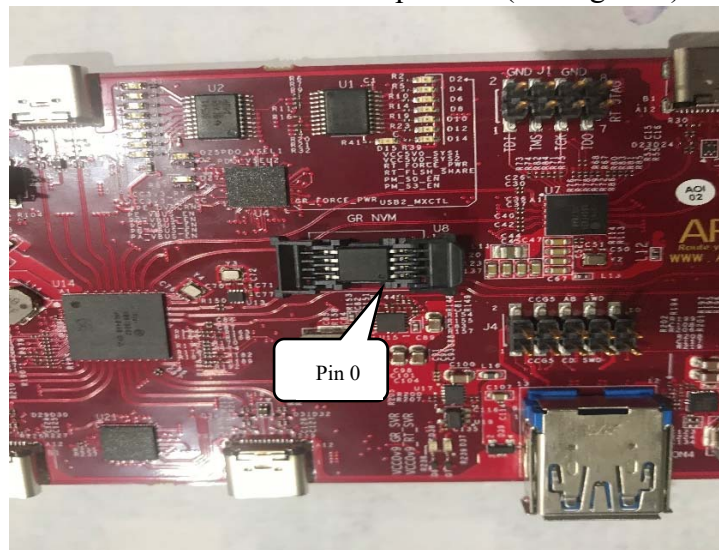

Figure 8: Chip inside U8 NVM
- Step 3: Open U8 – NVM and take out the chip inside (see Figure 8)